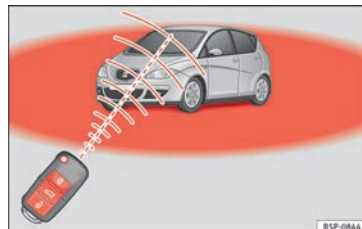

Fig. 51 Range of the radio frequency remote control.
- The radio frequency remote control functions only when you are in range » **Fig. 51** (red area).
- If the vehicle is unlocked using the  **①** button, it will lock again automatically if any of the doors or the rear lid are not opened within 30 seconds after unlocking it. This function prevents the vehicle from remaining unlocked if the unlock button is pressed by mistake.